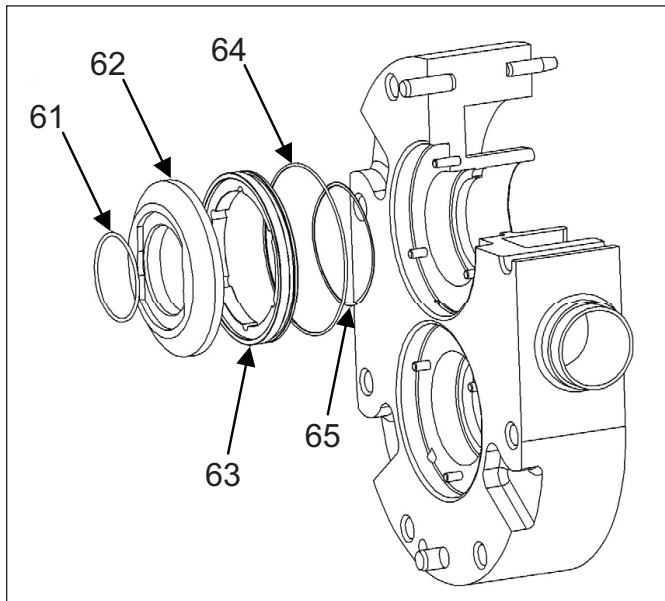

Figure 35.
1. Remove the Inner stationary seals from the pump body (Figure 35, item 61).